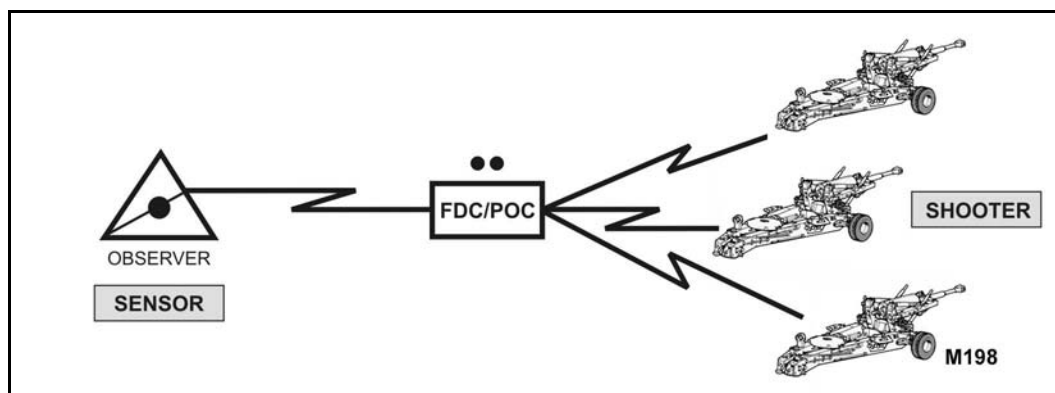

Figure 8-15. Quick fire channel illustrating sensor-to-shooter link.
b. **Quick Fire Channel.** A quick fire channel is established to directly link an observer (or other target executor) with a weapon system (Figure 8-15). Quick fire channels may be either voice or digital nets. Quick fire channels within a maneuver brigade are normally established on FA or mortar nets. These channels are designed to expedite calls for fire against high profile targets (HPTs) or to trigger preplanned fires. Quick fire channels also may be used to execute fires for critical operations or phases of the battle. Examples include linking a COLT or Striker with a battery or platoon FDC for counter reconnaissance fires or an AN-TPQ-37 radar with the multiple launch rocket system (MLRS) battery FDC for counterfires. Copperhead missions can best be executed by using quick fire channels.